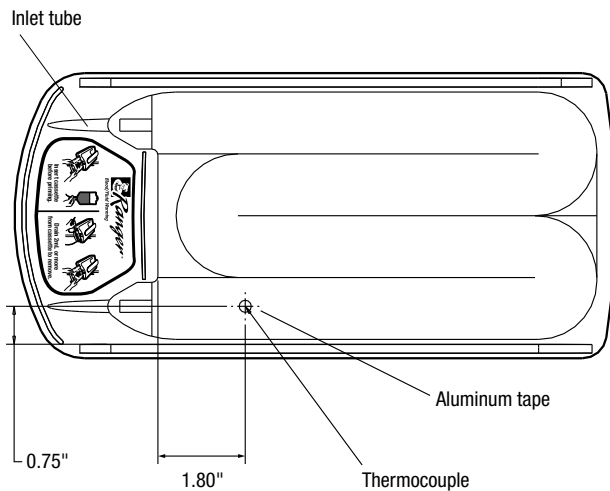

Fig. 1: Ranger standard flow blood/fluid warming cassette
1. Use aluminum tape to affix a thermocouple to the top surface of the Ranger warming as shown in Figure 1.